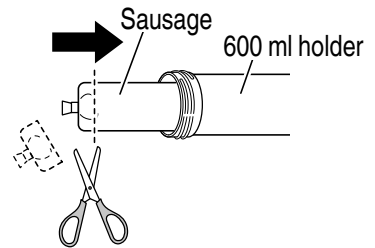

Fig. 20
- (2) Place the sausage in the 600 ml holder and cut the closed-off portion at the tip. (Fig. 20)